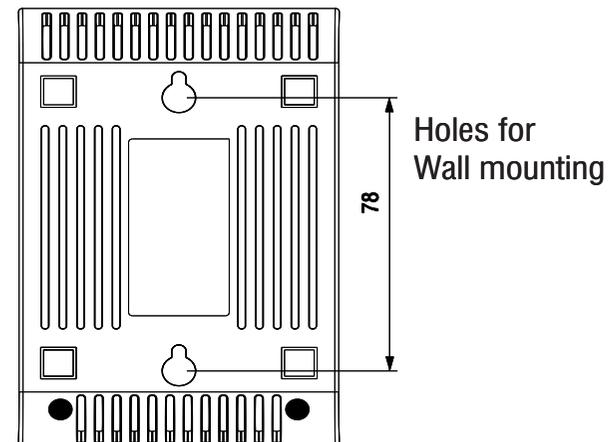

Figure 2
- Fix two screws in the holes on the wall, ensuring that they are aligned with the Keyhole Slots of Panel200 . The screws should protrude from the wall to fit into the Keyhole Slots, refer figure 2